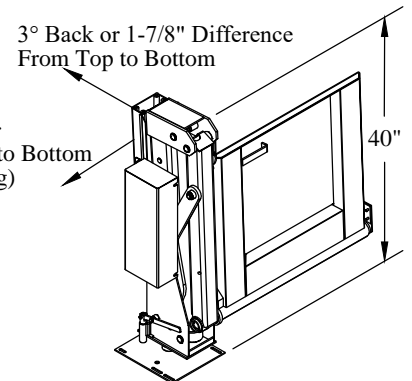
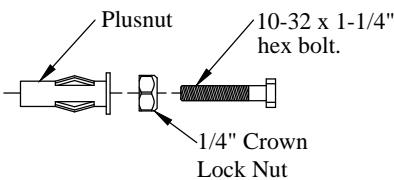

Figure 10: Liftgate properly tipped.
Figure 11: Plusnut parts.
5. **Position** the liftgate so it is tipped 3 degrees back and 1 degree to the left (Figure 10).
8. **Locate and Drill** eight (8) 5/16" holes into the rear door header, using the top angle bracket as a guide. Choose eight (8) of the angle bracket holes without obstructions.
9. **Assemble** the Plusnut with the 1/4" crown lock nut and 10-32 x 1-1/4" hex bolt (Figure 11)